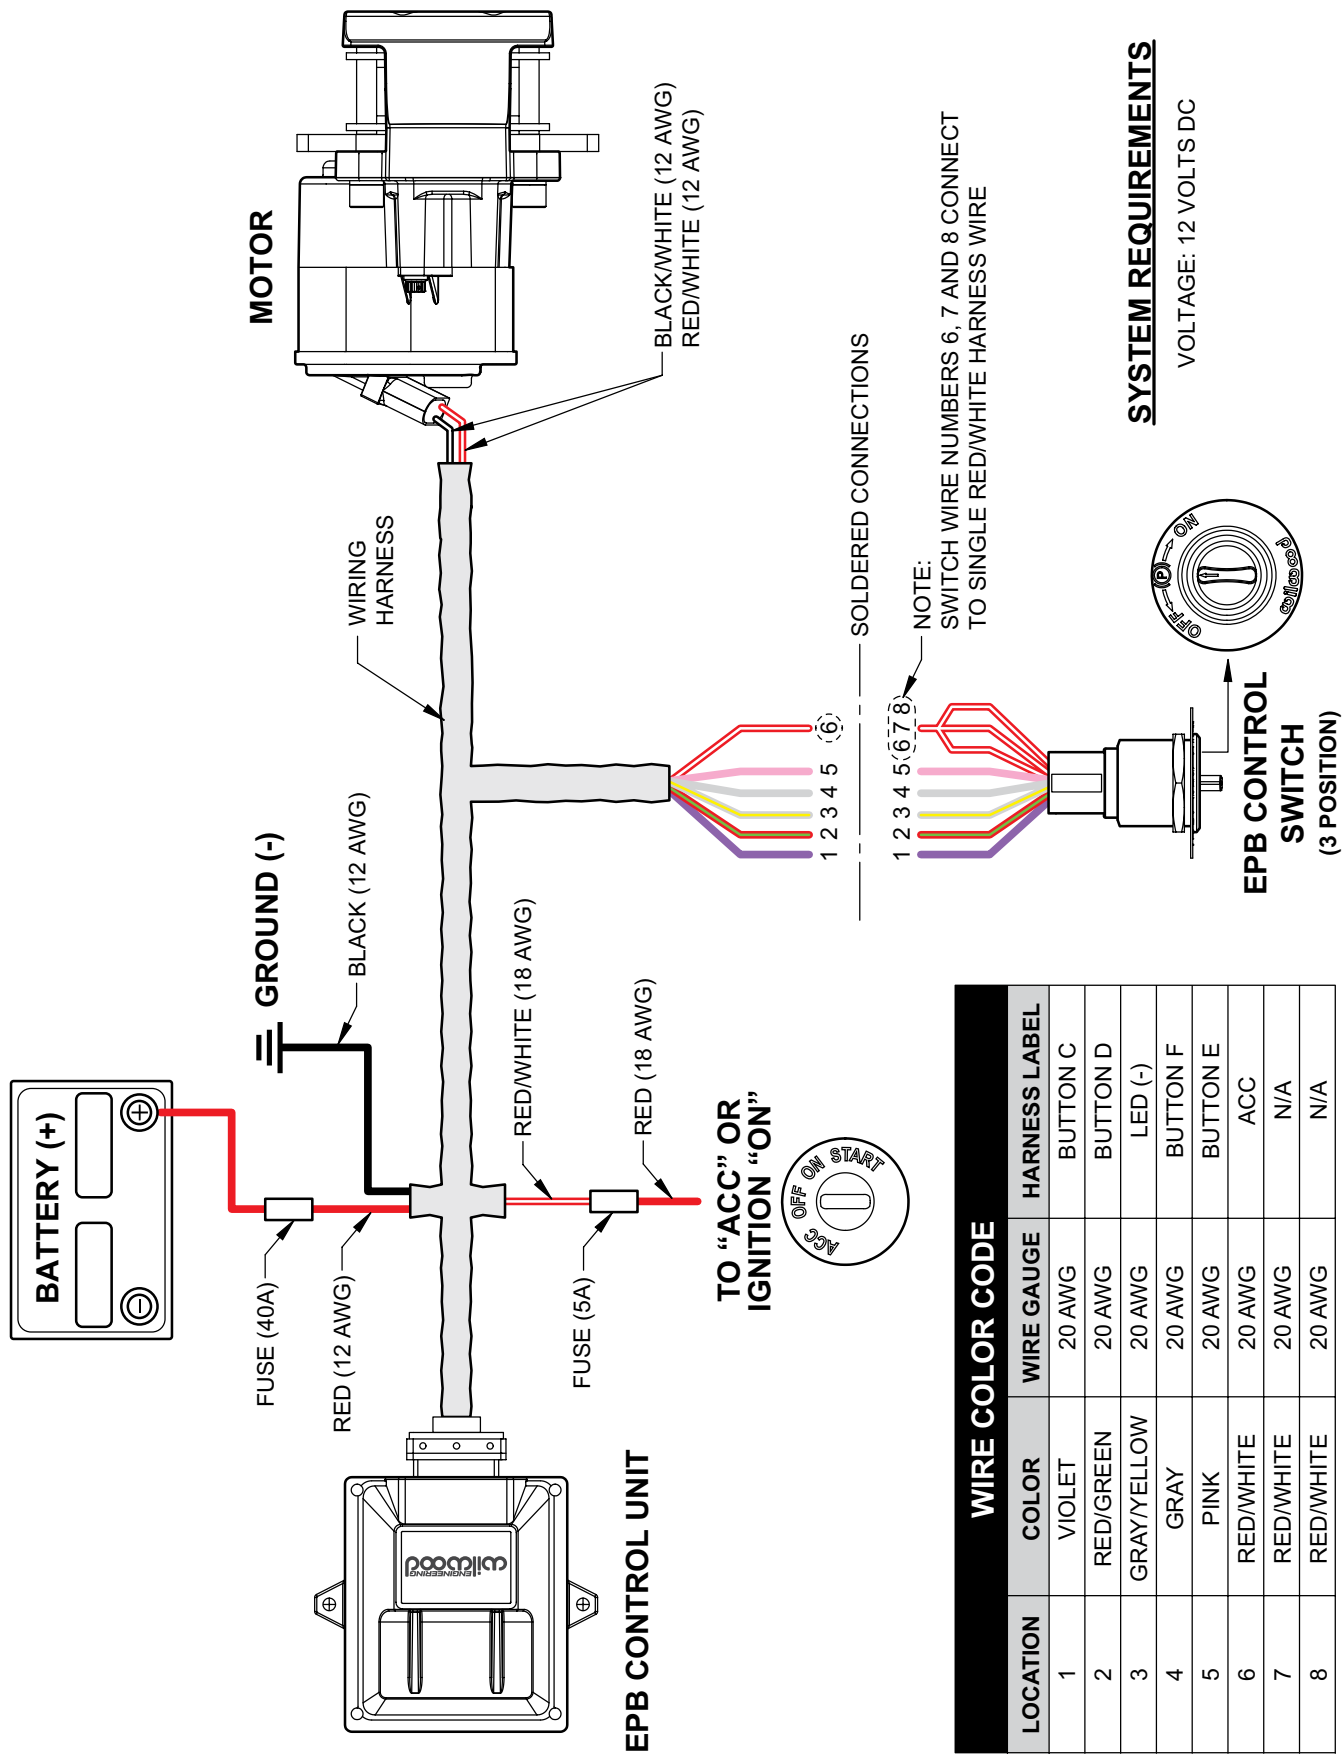

Figure 4. EPB Wiring Diagram
- EPB WIRING HARNESS - All wiring harness leads are labeled – refer to wiring diagram, Figure 4. Carefully route harness cables/wires to prevent contact with moving or rotating components and away from heat sources and pinch points. **NOTE:** *Wilwood EPB harness is designed for use in many different vehicle applications and it is the installer's responsibility to properly route cables/wires and ensure adequate clearance and retention for EPB components.*
## Wiring installation - Refer to wiring diagram, Figure 4